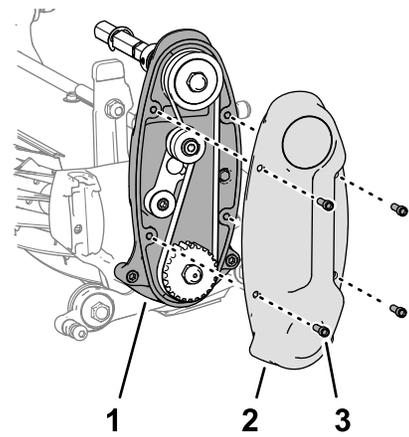

Figure 18
5. Assemble the cover to the reel-drive housing (Figure 18) with the 4 socket-head screws (1/4 x 3/4 inch).